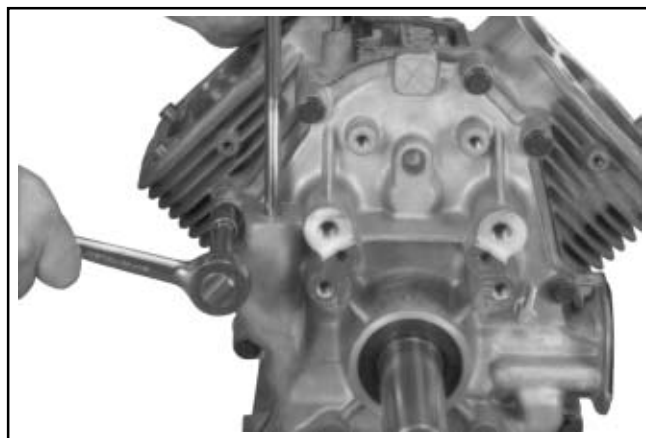

Figure 9-61. Removing the Ten Closure Plate Fasteners.
1. Remove the ten hex. flange screws securing the closure plate to the crankcase. See Figure 9-61.